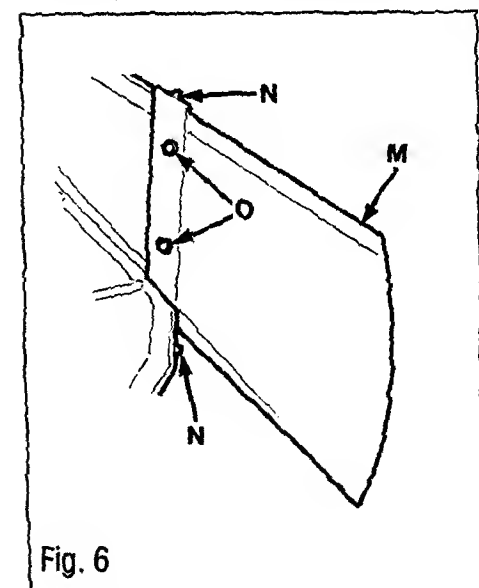

Fig. 6
2. Loosely attach ends of discharge chute (M, Fig. 6) inside discharge opening with two 5/16-18 x 3/4 flange screws and 5/16-18 flange nuts (N). The nuts should be on top.
4. Connect front of rod end (U, Fig. 6) to tractor and secure with clevis pin (V) and spring pin (W).